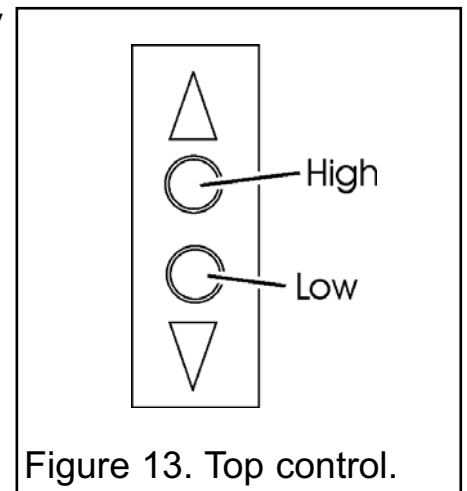

Figure 13. Top control.
1. Keep the pilot burner at the "main burner on" position. Check the full range of main burner heat settings using the Top Control. In order to vary the flame effect between High and Low positions, press, and keep depressed, either the High button, or the Low button as appropriate (See figure 13).